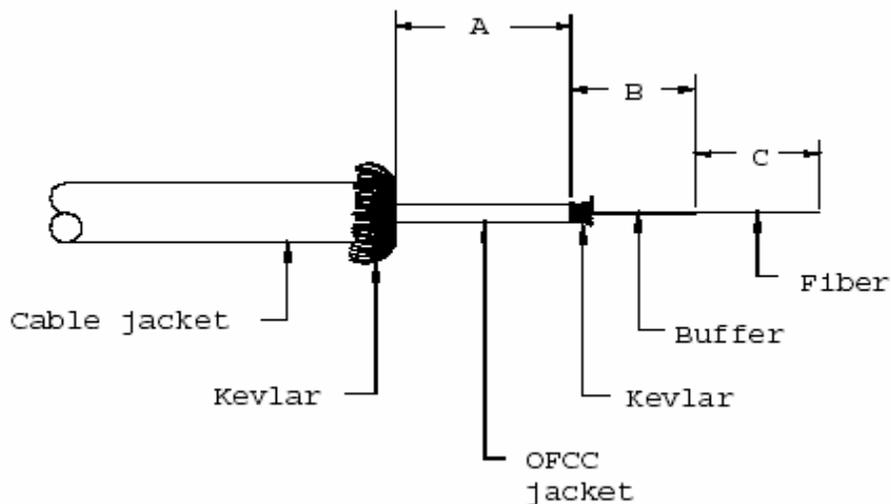

FIGURE 5A1-2a. Cable stripping dimensions
Step 9: Remove the OFCC jackets back to the dimensions (B + C) shown in table 5A1-IIA using the OFCC stripper and trim the OFCC kevlar using the Kevlar shears so that approximately 3 mm (0.12 in) extends past the OFCC jacket (see figure 5A1-2a).